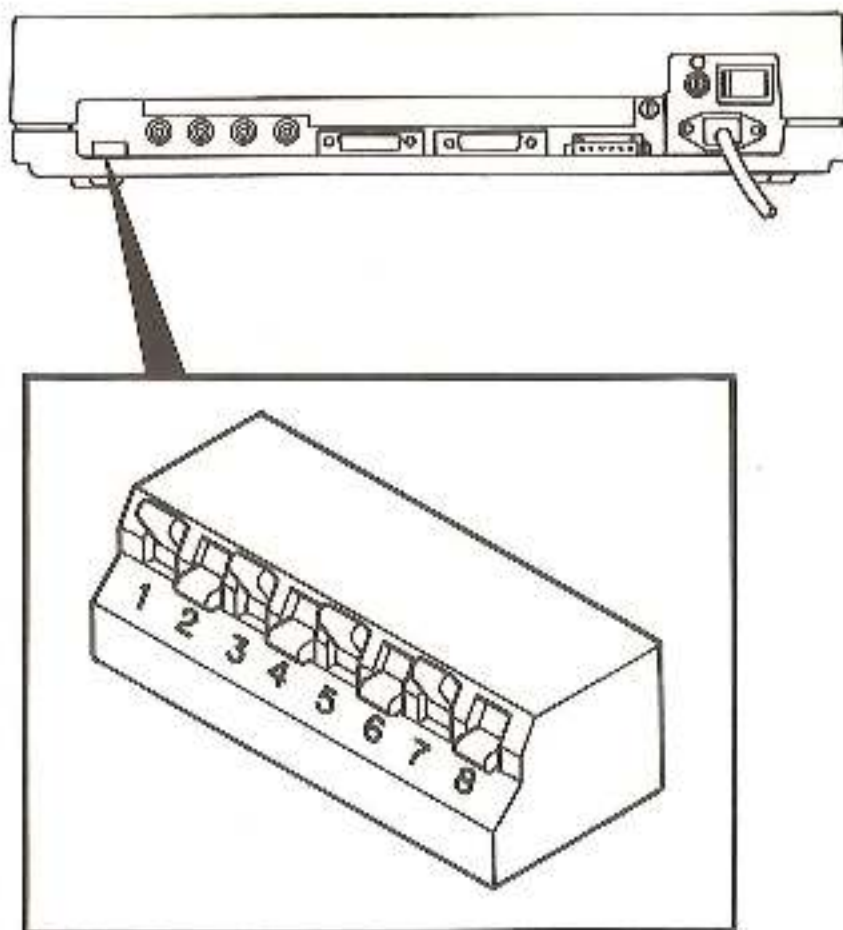

FIGURE 2-4 Default SET-UP
2. Locate the access opening on the rear of the terminal (Figure 2-4). The eight-position default SET-UP switch pack will be visible in the opening.